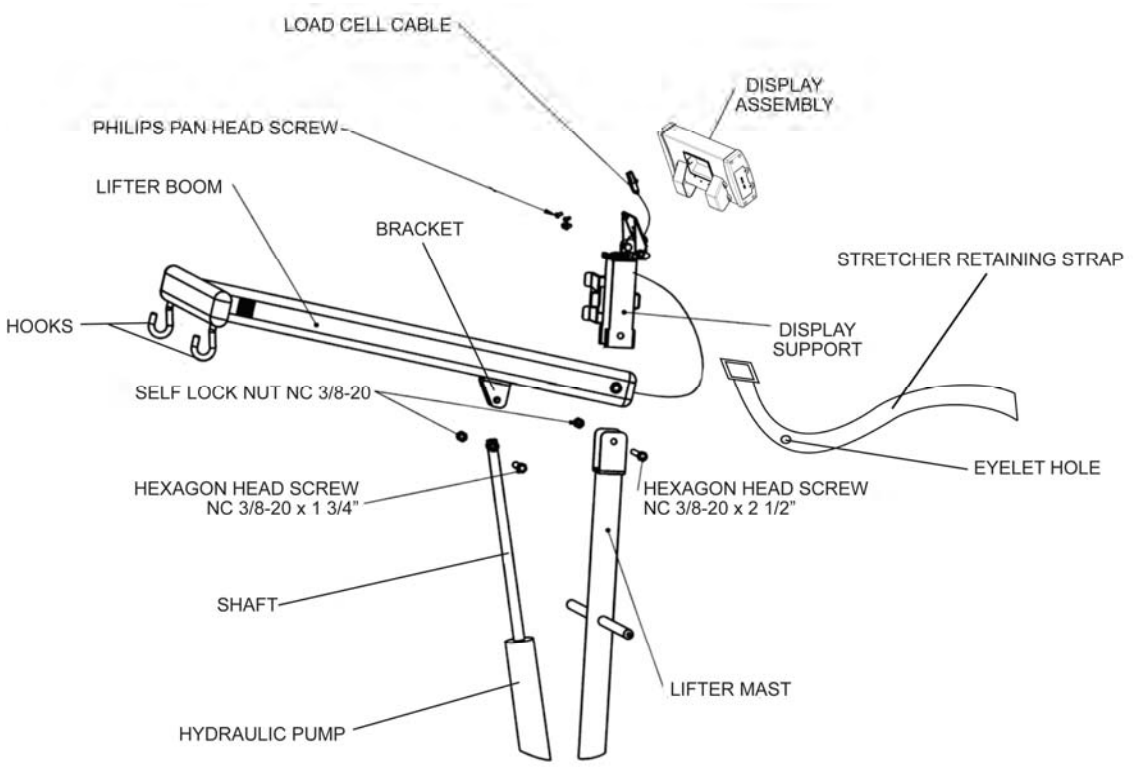

**Figure 2**
1. Remove the lifter base from the carton and place the lifter base on a flat, level and dry surface (see Figure 2).
4. Insert the bottom of the lifter mast and hydraulic pump assembly into the mast sleeve (through the stretcher holder) on the lifter base (see Figures 2 & 3).
21. Position the display assembly close to the display support. Connect the load cell cable connector to the load cell port on the rear of the display assembly (see Figures 2, 4 & 10).